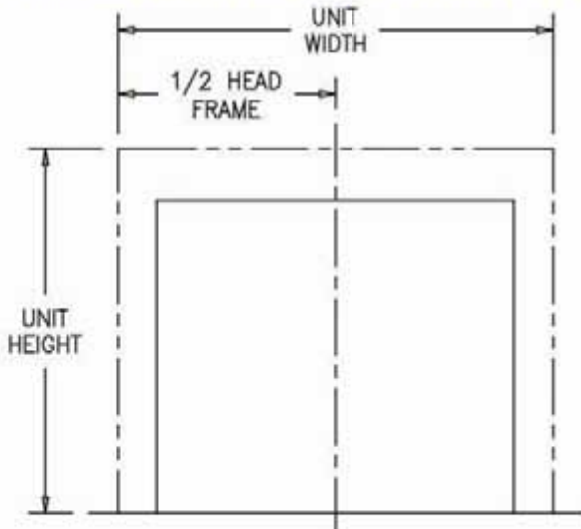

FIG. 1
4. **Determine centerline of door opening and head frame:** Locate centerline of door opening and mark on dock floor. Take ½ the head frame width and mark this distance on both sides of the door centerline (fig. 1).
- Position vertical frames on wall so that the outside edge is flush with the vertical lines from fig. 1, and that bottom edge is flush with the floor (fig. 6).